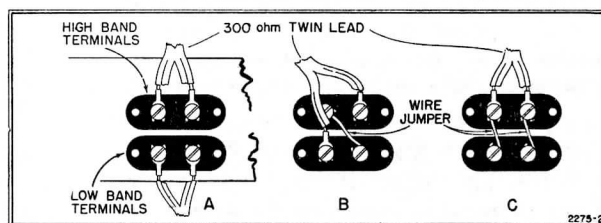

Figure 3. Alternate antenna connections
- After removing the telescopic antenna from the case in the television set, the transmission wire should be uncoiled. Attach two wires of this transmission wire to the terminals of the bakelite strips on the rear of the set as shown in Fig. 3, A or B below. Use arrangement giving best reception.
- 1 For those who use separate Hi and Low Band antennae, with two lead-in cables, connect the Hi-Band leads to the two top terminals marked Hi-Band, connect the Lo-Band leads to the two bottom terminals marked Lo-Band. See fig. 3, sketch A.
- 2 For those who use a combined Hi-Lo Band antenna, better known as a "All Wave Antenna" with one lead-in cable, connect as shown in fig. 3, sketch B.
- 3 In some cases due to location or environment of the Receiving antennae, better results can be had by connecting the lead-in as shown in fig. 3, sketch C.
8. Connect the sweep generator to the antenna terminals. (If the sweep generator available does not have a balanced output, connect it as shown in figure 3.) Check channels 2, 4, 6, 7, 9, 13 for overall response, keeping the generator output at a level which will provide approximately a 2-volt peak-to-peak output. If the set does not track properly, refer to the tuner alignment procedure.